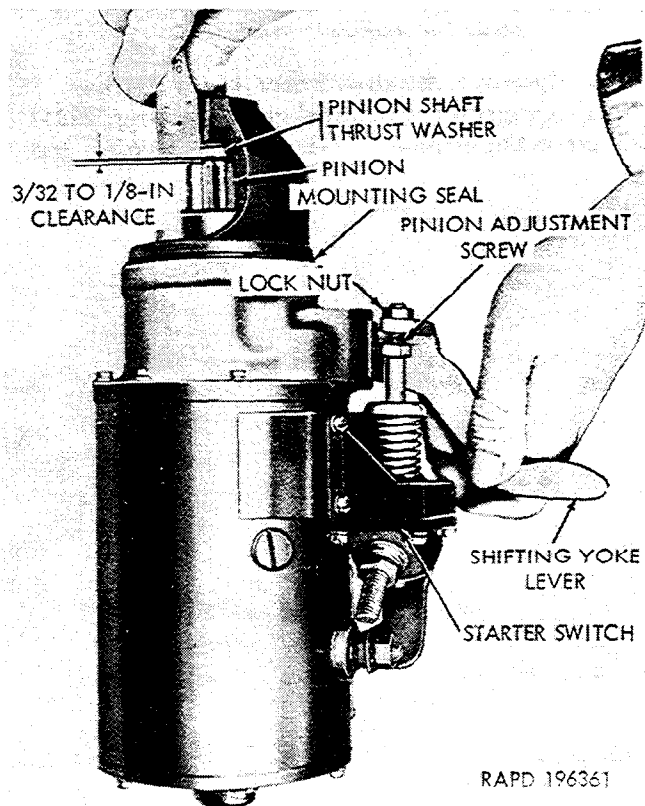

Figure 2-25. Pinion adjustment for starter.
(5) Remove the two nuts and lockwashers that secure the starter to the studs in the clutch housing and remove the starter. Remove and discard the starter mounting seal (fig. 2-25).
(1) If the two starter mounting studs were removed (*a* (6) above), install new studs in the clutch housing with the coarse thread end in the housing. Tighten the studs.
(2) Install a new starter mounting seal (fig. 2-25) and place the starter (fig. 2-25) in position on the clutch housing. Install the two lockwashers and nuts. Tighten the nuts.
b. Replacement (Fig. 2-25).
(1) Remove the starter (para 2-27).